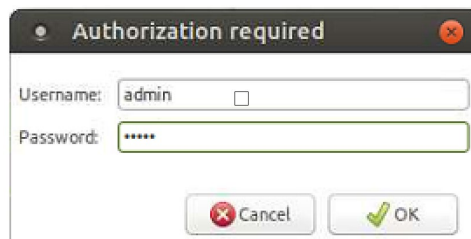

Figure 43: User Login Dialog
- a. On the Menu Bar click on **Users** and choose User Login. Figure 43.